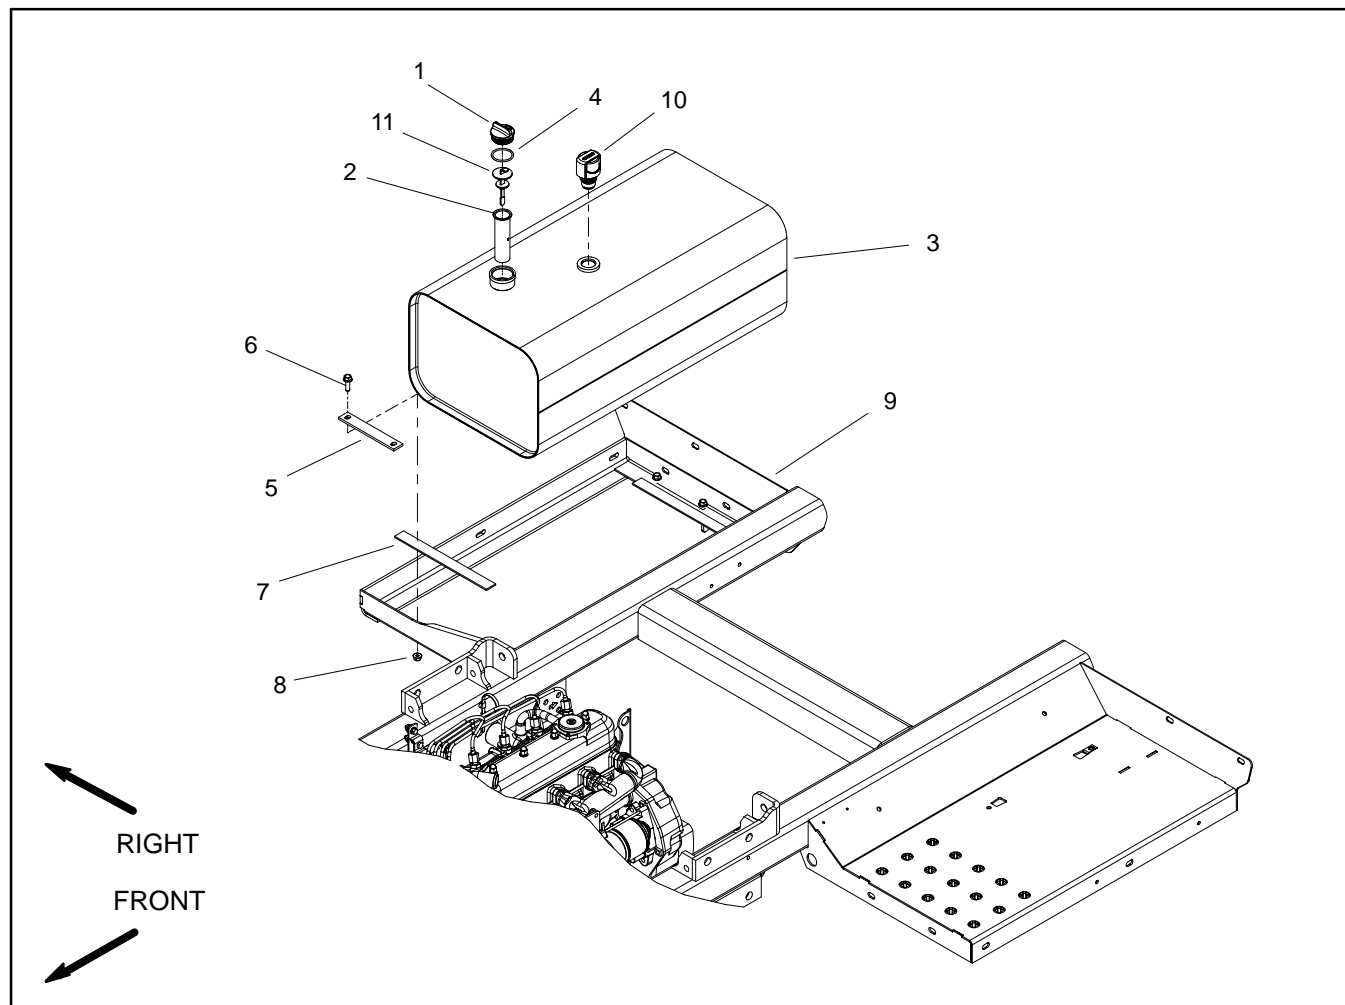

Figure 77
Removal (Fig. 77)
6. Remove hydraulic reservoir from machine using Figure 77 as a guide.
Installation (Fig. 77)
1. Install hydraulic reservoir to machine using Figure 77 as a guide.